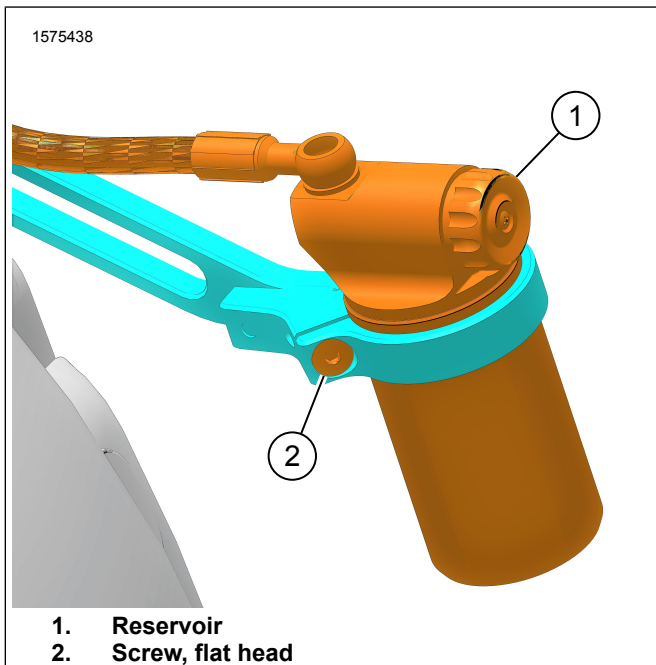

Figure 6. Clamp Bracket Screw
8. See Figure 6. Tighten screw (2).